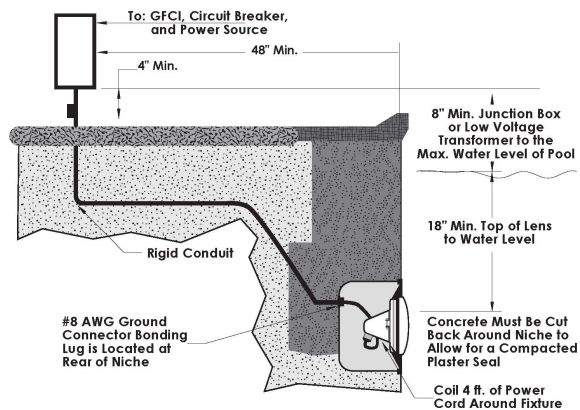

Figure 1.
- A junction box or low voltage transformer is located at least 8 inches above the maximum pool water level and at least 48 inches from the pool edge; reference Figure 1.
- Proper wet niche installation with the top edge of the underwater light's lens at least 18 inches below the surface of the water in the pool and not more than 20" in Canada; reference Figure 1.
- Proper electrical wet niche bonding and grounding using the #8 AWG ground connector at the rear of the niche; reference Figure 1.
- The wet niche is properly electrically bonded and grounded via the No. 8 AWG ground connector located at the rear of the niche; see Figure 1.
4. Remove the existing cord by pulling it up out of the niche and onto the deck. Carefully strip the outer cord jacket to expose six (6) inches of the underlying three insulated wires.
7. Carefully strip the outer cord jacket from the new light cord to expose six (6) inches of the underlying three insulated wires.
8. Connect these three (3) wires to their corresponding junction box circuit wires and secure the junction box cover in place.
9. Be sure to leave at least four (4) feet of cord at base of the fixture to coil around the light to ensure ease of servicing; reference Figure 1.
11. Using the stainless steel pilot screw provided, install the Purewhite® Incandescent light fixture assembly into the niche, carefully tightening the pilot screw. (Reference Figure 1)